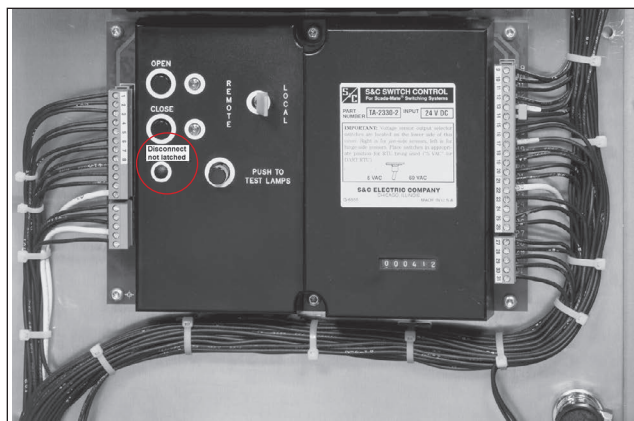
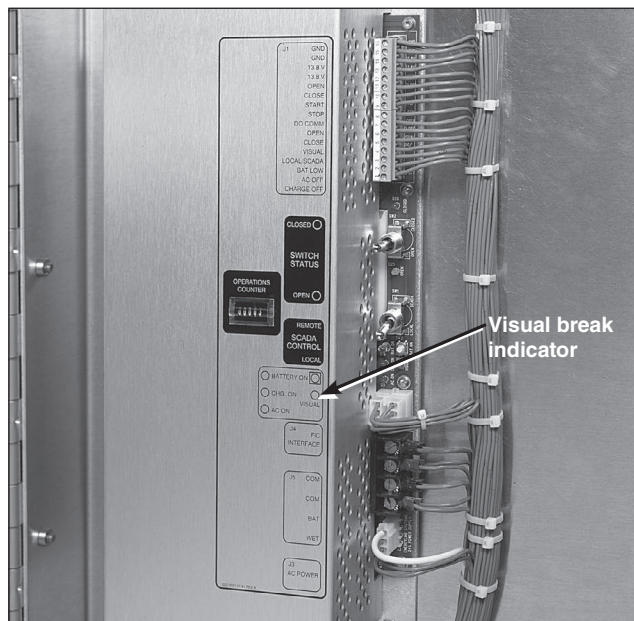

Figure 18. The Type CCU-SP DISCONNECT NOT LATCHED indicator is lit when the disconnect is not fully closed.
Figure 19. The Type CCU-XP VISUAL BREAK indicator is lit when the disconnect is not fully closed.
**Note:** For a Type CCU-SP, the DISCONNECT-NOT-LATCHED indicator is lit when the disconnect is not fully closed. See Figure 18. For a Type CCU-XP, the VISUAL-BREAK indicator is lit when the disconnect is not fully closed. See Figure 19.